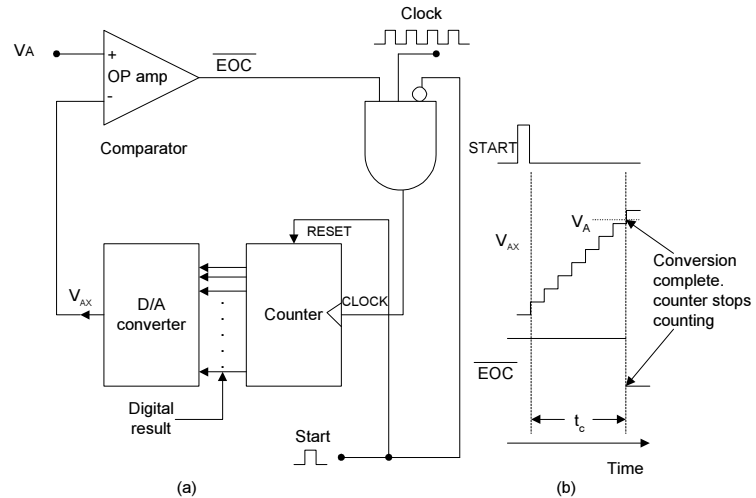

Fig. 7.7 : Digital-ramp ADC.
One of the simplest versions of the general ADC of Fig. 7.7 uses a binary counter as the register and allows the clock to increment the counter one step at a time until $V_{AX} \geq V_A$. It is called a digital-ramp ADC because the wave form at V_{AX} is a step-by-step ramp (actually a staircase) like the one shown in Fig. 7.7. It is also referred to as a counter-type ADC. Fig. 7.7 is the diagram for a digital-ramp ADC. It contains a counter, a DAC, an analog comparator, and a control AND gate. The comparator output serves as the active-LOW end-of-conversion signal, $\overline{EOC}$. If we assume that V_A , the analog voltage to be converted, is positive, the operation proceeds as follows :
5. As the counter advances, the DAC output, V_{AX} , increases one step at a time as shown in Fig. 7.7.